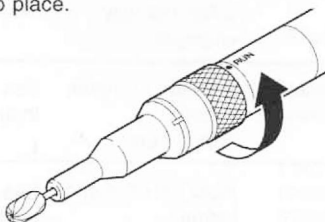

Figure 3.
5. Rotate the lock collar to the RUN position (figure 3).